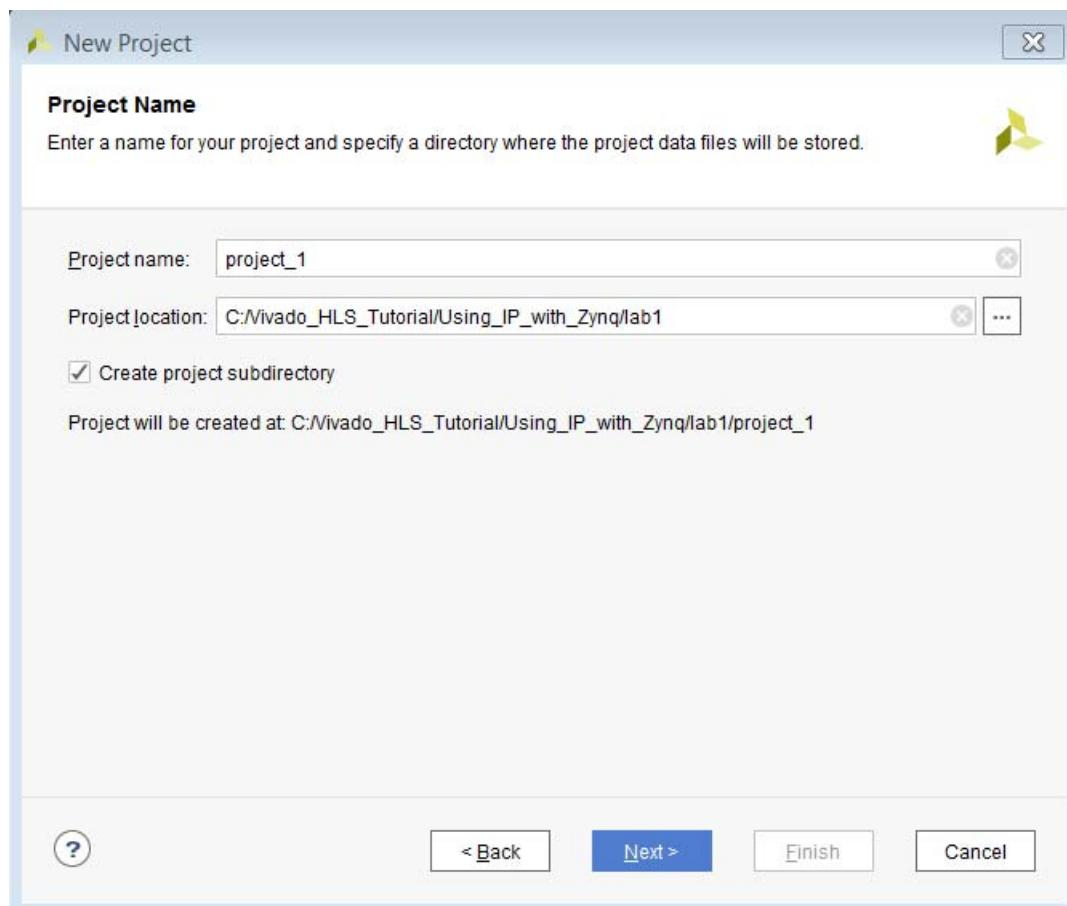

Figure 10-4: Specify the Vivado Project Directory
- In the Project Location text entry box, browse to the location of the tutorial file directory `Using_IP_with_Zynq\lab1` and click **Next** (Figure 10-4).